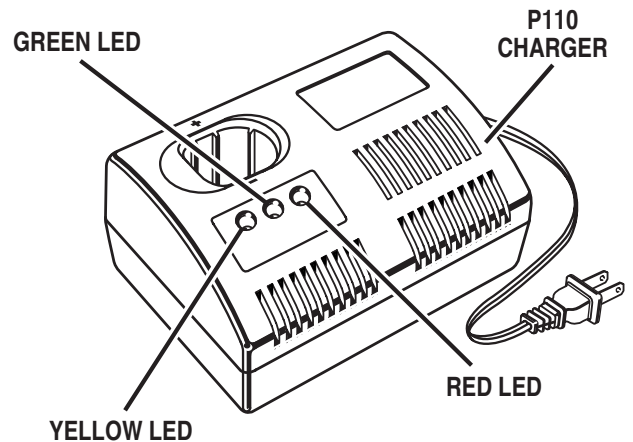

Fig. 4
- Place the battery pack in the charger aligning raised rib on the battery pack with the groove in the charger. See *Figures 4 - 5*.